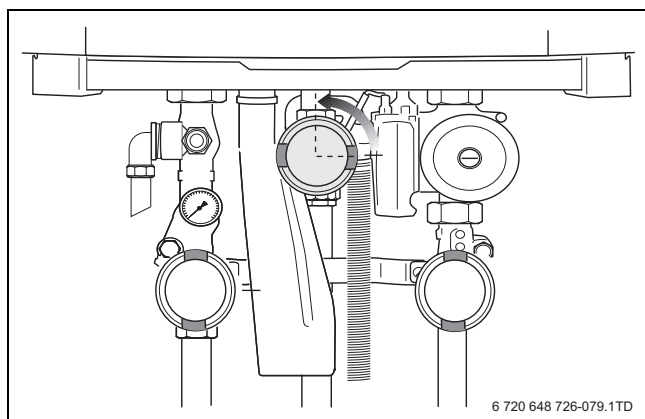

Fig. 79 Open the gas valve
- ▶ Slowly open the gas valve by pushing on the gas valve and turning it ¼ rotation in an anticlockwise direction (→ fig. 79, page 39). The gas valve is open when it is in the vertical position.
- ▶ Open the gas valve again by pushing on the gas valve and turning it ¼ rotation in an anticlockwise direction (→ fig. 79, page 39).